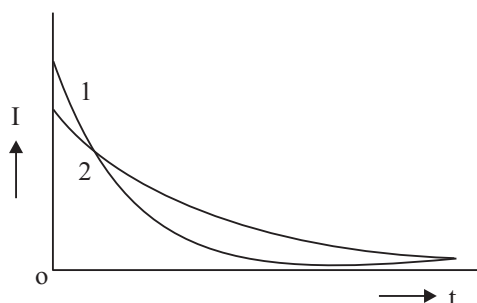

Fig. 25.4
- (iv) Which graph in the Fig. 25.4 corresponds to larger time constant? Why?